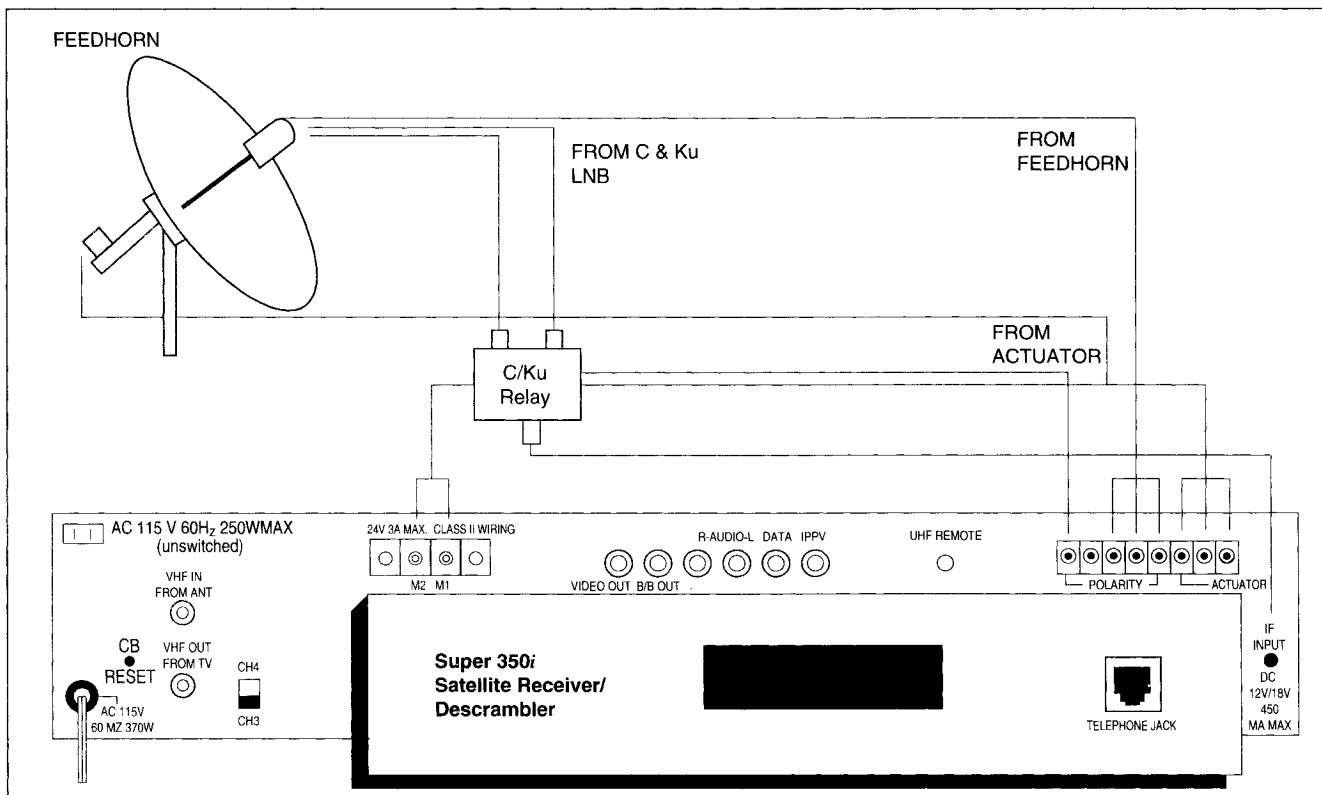

Fig. 2 Separate C- and Ku-bands with Corotor feedhorn and C/Ku dual band relay
- An external DC coaxial switch as shown in Figure 2 or 3 to accommodate the extra IF in line.
2. If your system uses separate LNB's for C- and Ku-band, connect the LNB IF cables to a DC coaxial relay. Connect the coax output from the relay to the "IF INPUT" connector **B18**. Connect a 20-gauge wire from the C/Ku terminal at the left end of the polarity terminal block **B15** to the 5Vdc input on the relay. (See Figure 2.)